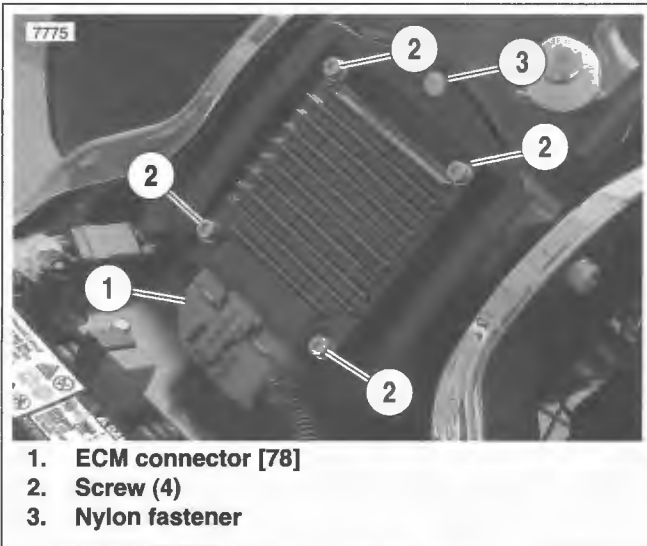

Figure 2-132. ECM Mount
5. See Figure 2-132. Remove nylon fastener (3) from electrical box (2).
4. See Figure 2-132. Install nylon fastener (3) into electrical box (2) and fender.